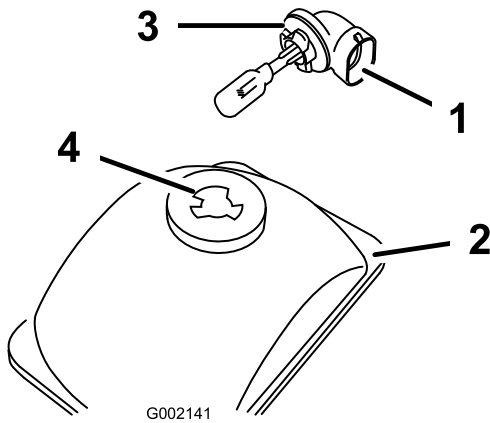

Figure 39
3. Reach beneath the dash and rotate the lamp assembly 1/4 turn counterclockwise (Figure 39).
8. Reach beneath the dash and align the three tabs on the lamp assembly with the slots in the reflector (Figure 39).